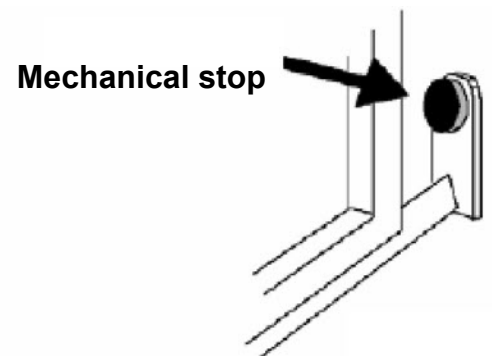
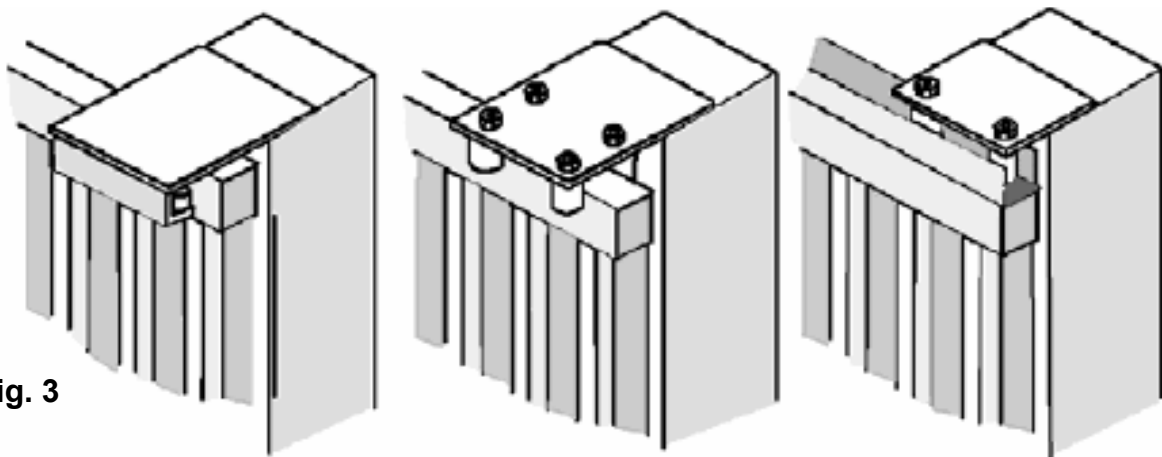

Fig. 2
Fig. 3
- Also check that the runner on the ground (**Fig. 1**) is not deformed, is perfectly level and that the mechanical stop is present on opening (**Fig. 2**) in order to **prevent** the gate from going beyond the upper runners (**Fig. 3**)
- Check the upper runner (**see Fig. 3**) is firm and the gate slides freely.
Fasten the rack to the gate firmly, leaving a distance of between 2 and 3 mm from the motor pinion **(Fig.2)**.
Limit switches can be installed on the pillar or in the desired position depending on the needs and they can be electromechanical or magnetic. **(Fig. 3)**